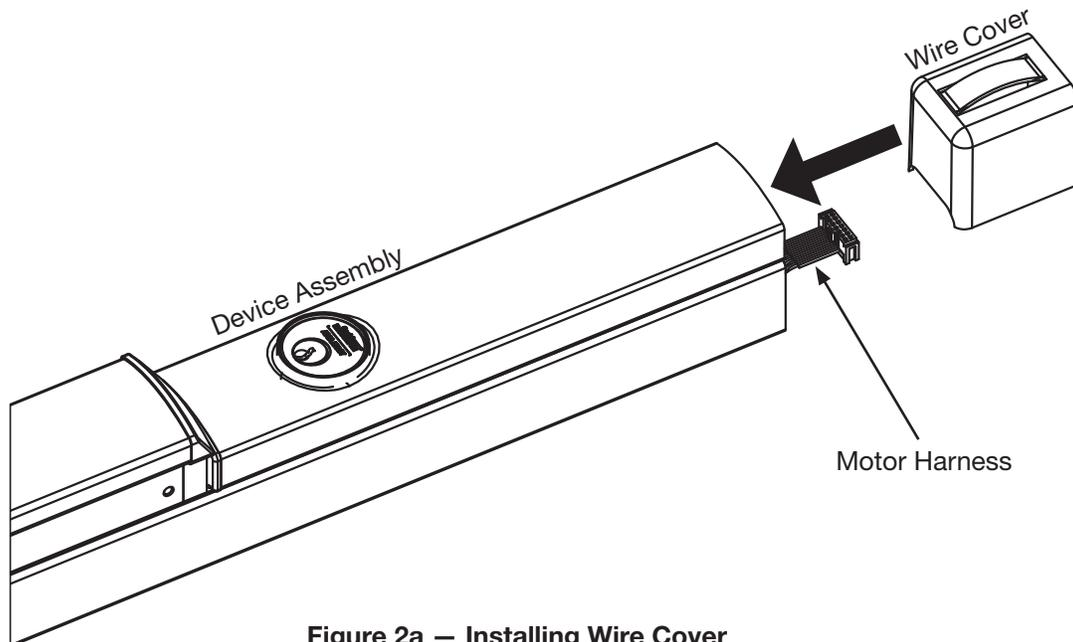

Figure 2a – Installing Wire Cover
- a. While holding motor harness, slide wire cover all the way into device assembly (see Figure 2a).